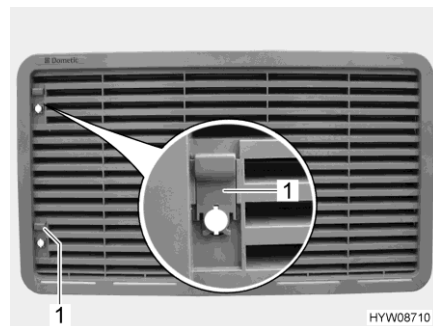

Fig. 203 Refrigerator ventilation grill
- Push sliding trap (Fig. 203,1) upward.